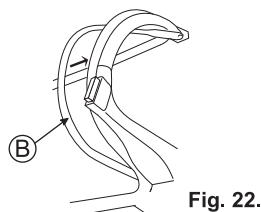

Fig. 22.
4 Pull Drive clutch lever (B) toward you to start mowing. (See Fig. 22.)